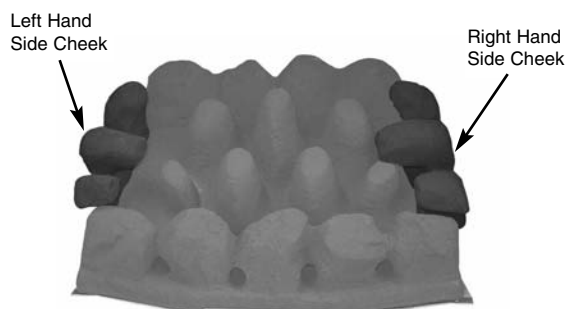

Fig. 16
4. Place the side cheeks into position, making sure they are positioned either side of the fuel bed and the overhang is at the front. The outside edge should be in contact with the radiant box ceramic liner. Ensure that the lower part of the side cheeks sit on the front coal and are in front of the rear coal (Fig. 16).